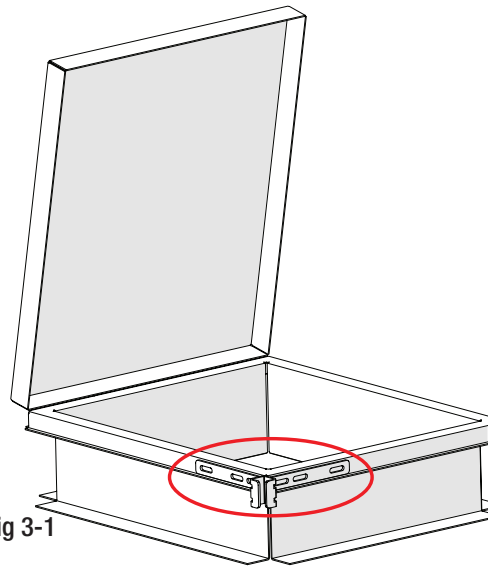
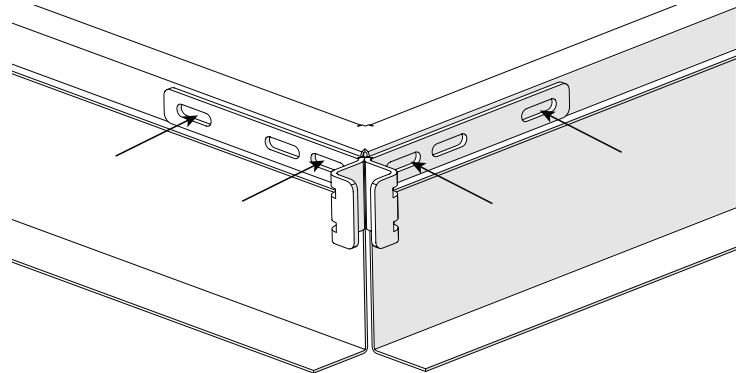

Fig 3-1
Fig 3-2
Place the corner mounting bracket in position as show in Fig 3-1. Using the brackets as a drilling template, mark the drill holes. Remove the corner bracket. Drill (4) 1/2" mounting holes in the capflashing. Fig 3-2